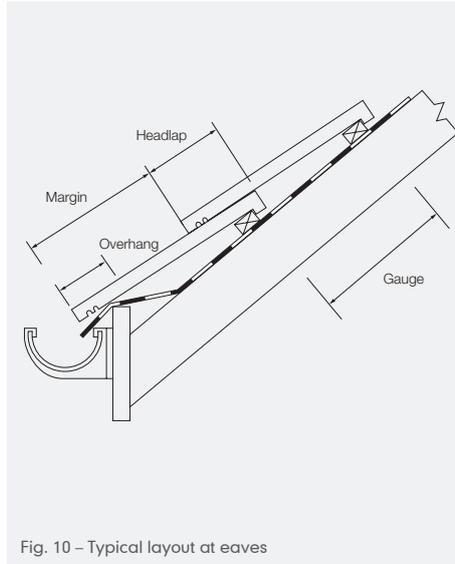

Fig. 10 – Typical layout at eaves
- 2 Eaves tiles should overhang the fascia board 50mm (Fig. 10).